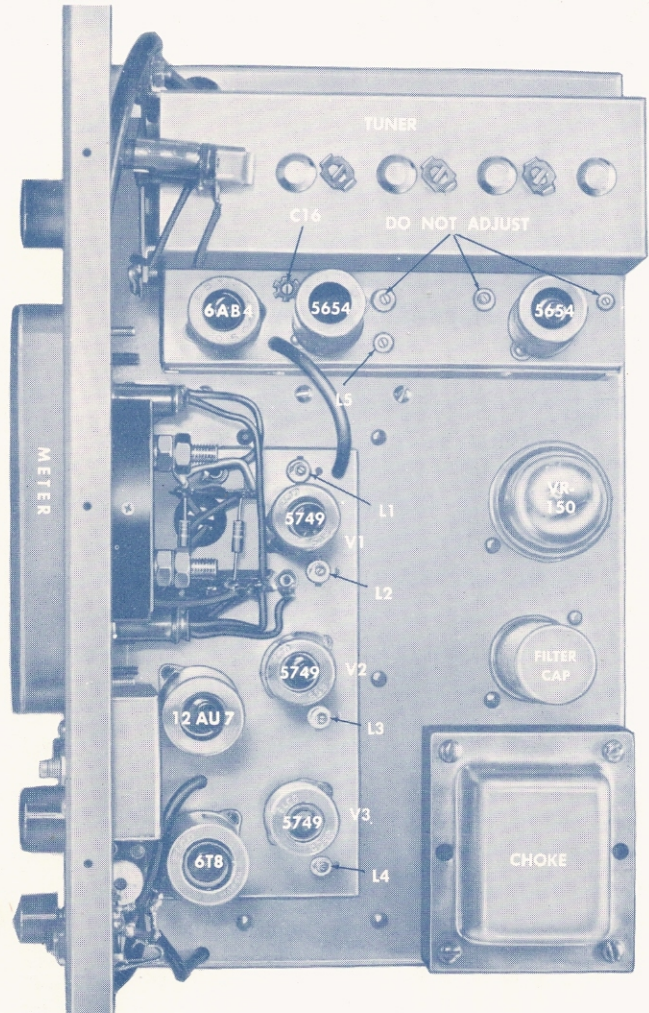

FIG. 5. TUBE AND TUNING CORE LOCATION (TOP VIEW OF CHASSIS)
4. Adjust C-16 for peak meter deflection. (See figure 5, addendum page 2.)